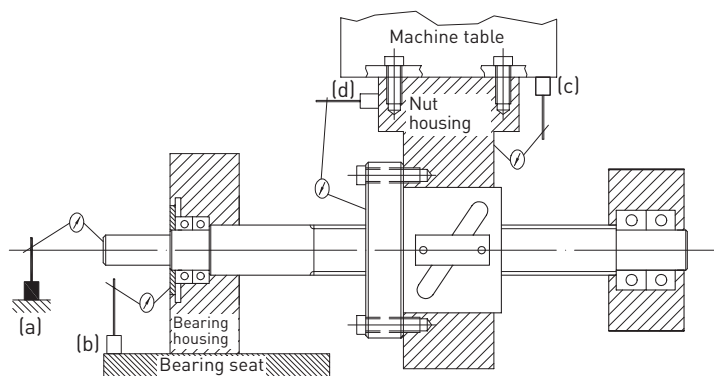

Fig. 7.2 Establishing reason for abnormal play
1. Glue ball gauge in central hole at one end of ballscrew shaft. Use a dial gauge to measure the axial backlash of the ball gauge as you rotate the ballscrew shaft. (Fig. 7.2 (a)). It should not move any more than 0.003 mm if the bearing, ballscrew nut and nut housing are fitted correctly.
2. Use a dial gauge to measure the relative movement between the bearing housing and bearing seat as you rotate the ballscrew shaft (Fig. 7.2 (b)). Any measurement other than zero shows that the bearing is either not rigid enough or incorrectly mounted.
3. Check relative movement between machine bed and housing of ballscrew nut (Fig. 7.2 (c)).
4. Check relative movement between housing of ballscrew nut and flange (Fig. 7.2 (d)).
The housing mounted on the ballscrew nut or on a bearing may twist under the weight of the components or machine load if not rigid enough. The test structure shown in Fig. 7.2 (d) can be used to test the rigidity of the nut housing. Similar test structures can be used to test the rigidity of bearing housings.